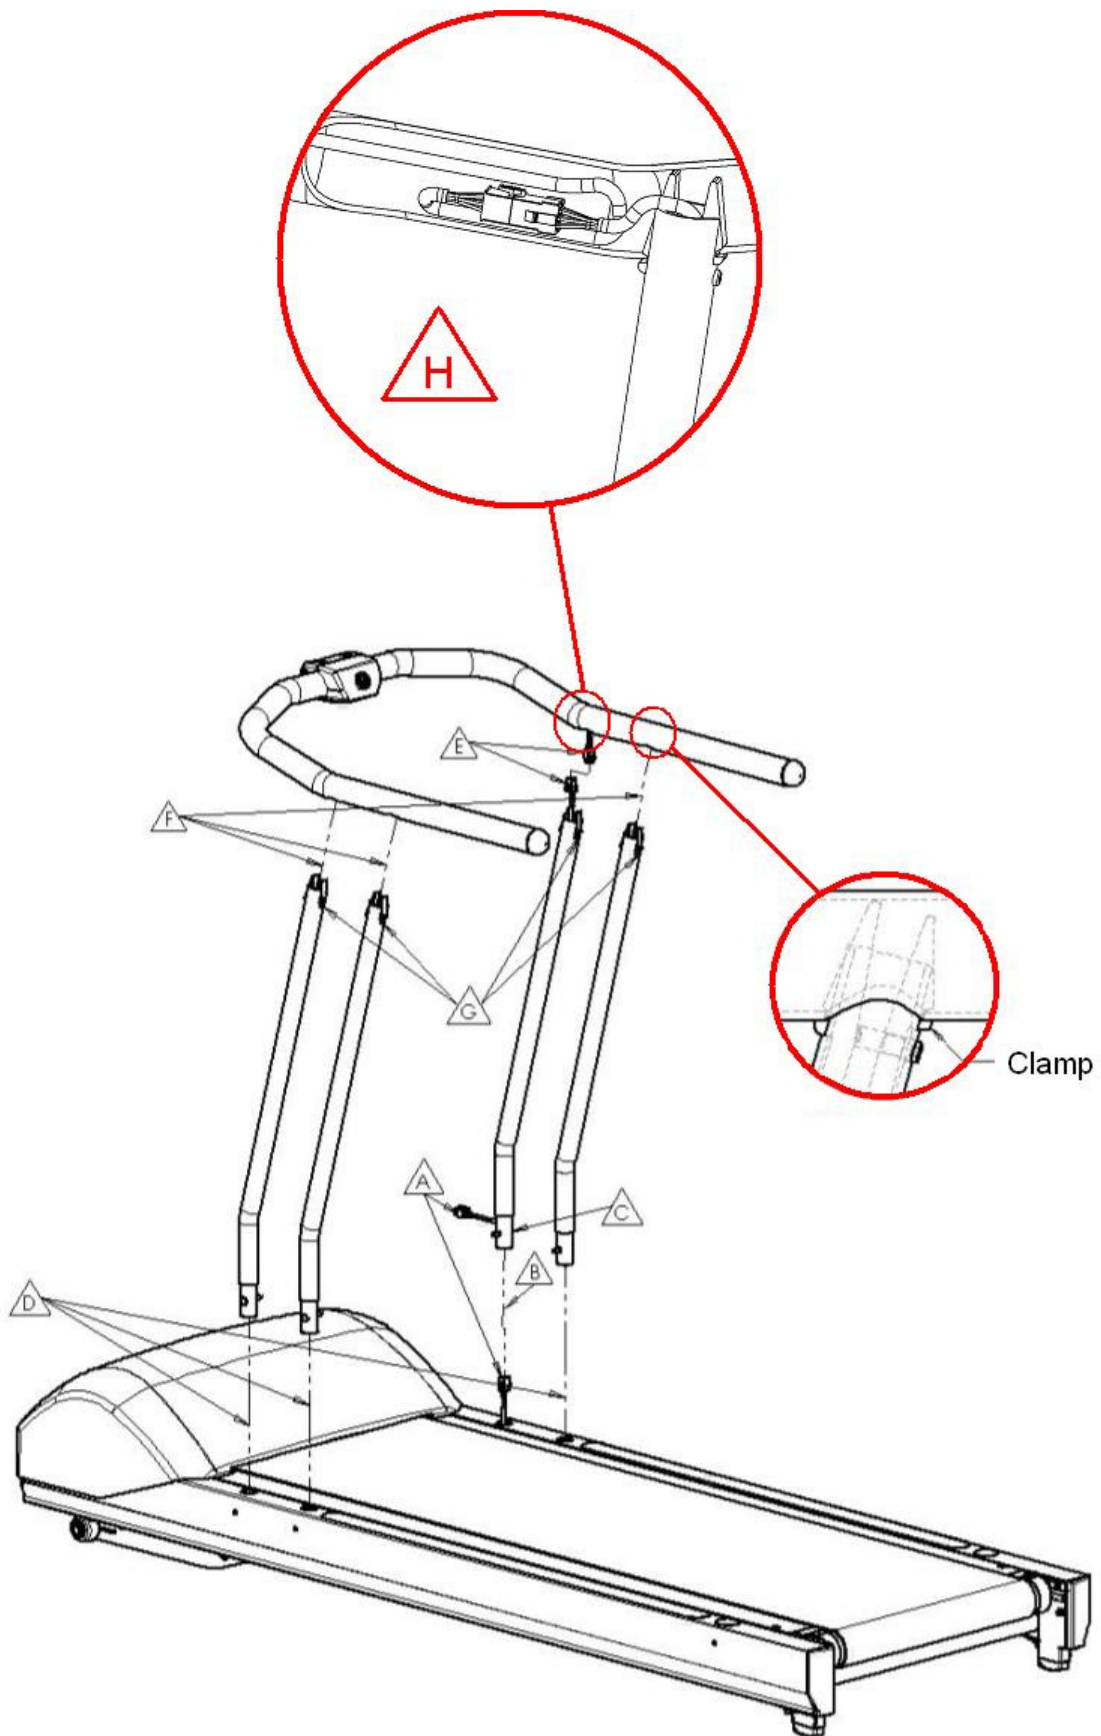

figure 1
8. Two pair of hands is needed. Make sure the handrail upper frame firs exactly on the clamps at all 4 posts (figure1, F)
9. Fix the bolts of the posts with Allen key #6 (figure 1, D)
10. Tighten the clamps by using Allen key #5 (figure 1,F)